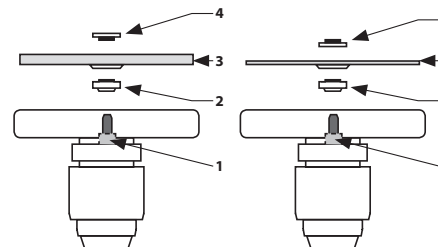
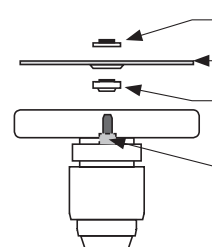

Fig. 13A
Fig. 13B
1. Place the disc mounting washer (fig. 13A and fig. 13B, position 2) on to the spindle of the angle grinder so that it is seated in the ingress of the spindle and turns with it.
3. Place a disc on to the spindle of the angle grinder in the orientation as shown in fig. 13A and fig. 13B, position 3 and place it on to the washer (see fig. 13A and fig. 13B, position 2).
4. Subsequently screw the outer clamping nut on to the spindle (fig. 13A or 13B, position 4). To clamp a thicker grinding disc (max. thickness of 6 mm), screw on the clamping nut with the side of the raised ring towards the disc (fig. 13A, position 4). To clamp a thin disc, screw in the clamping nut facing the disc with the side without the raised ring (fig. 13B, position 4).